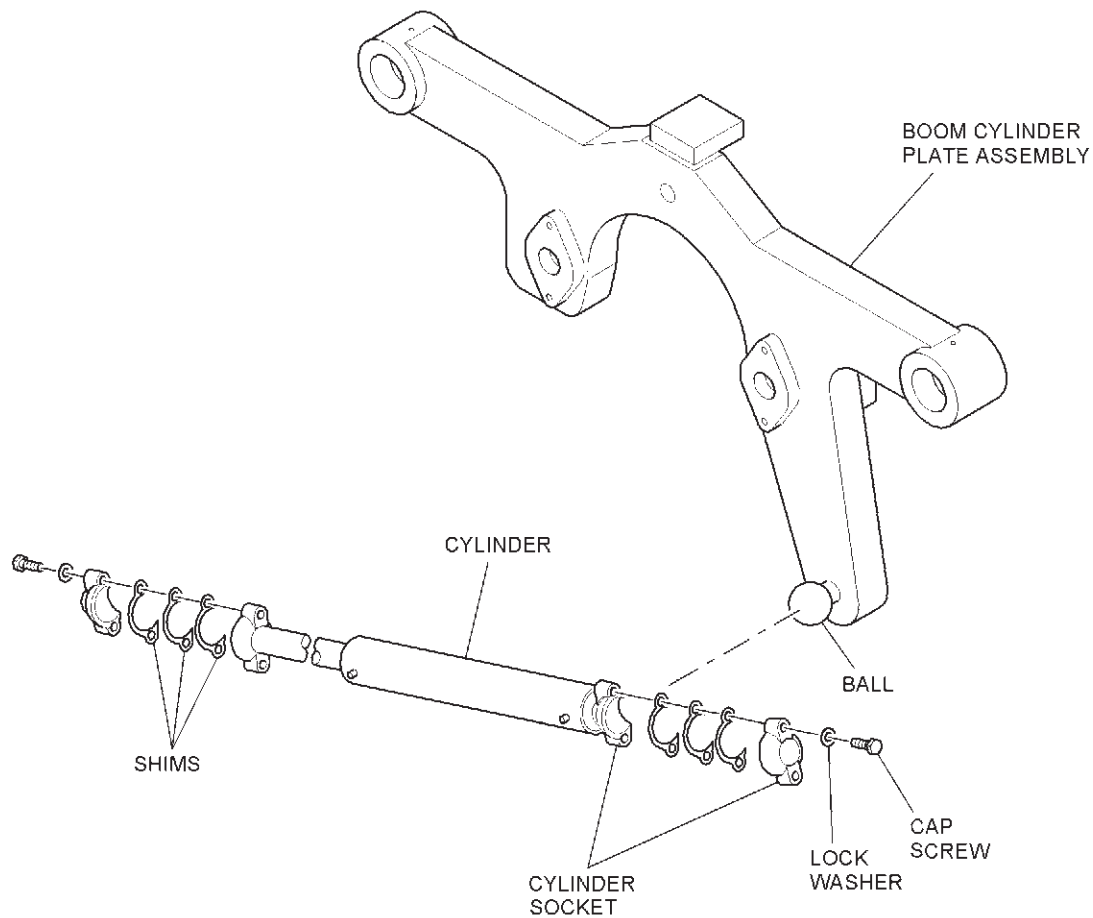

Figure 7-12. Typical Cylinder Ball and Socket
1. Lower blade to ground. Check each ball and socket assembly, Figure 7-12.